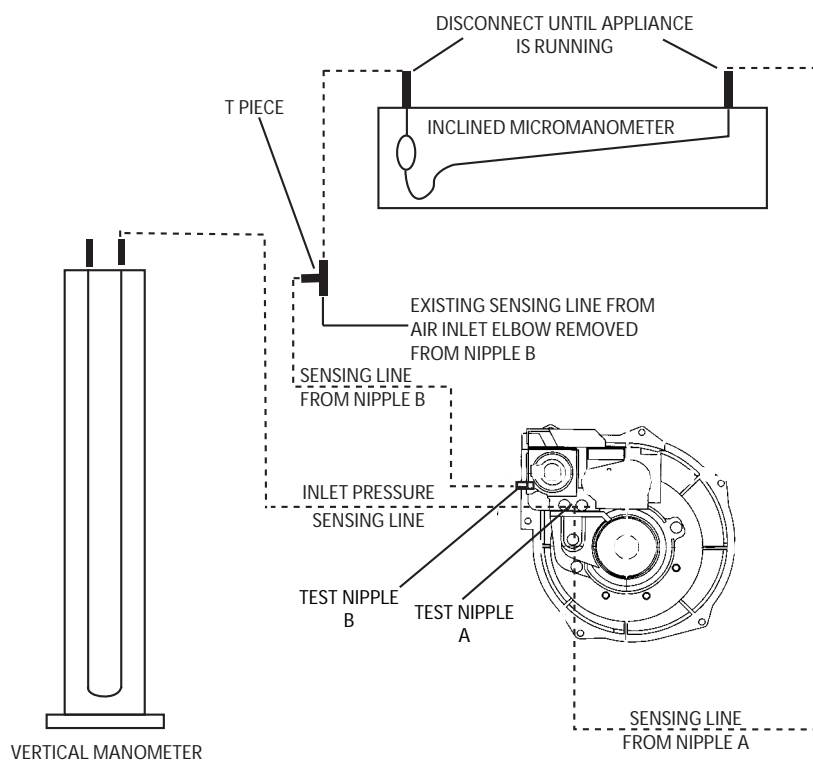

Figure 26
1. Turn off the electrical supply and gas supply. Ensure manometers are set to zero refer to Figure 25 and Figure 26.